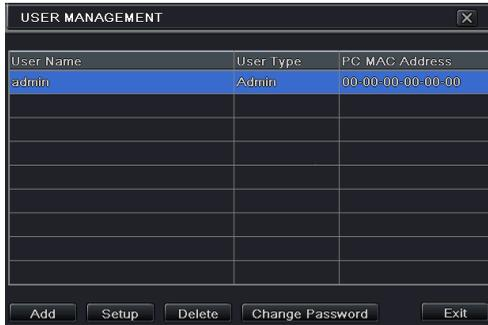

Fig 4-29 User Management Configuration
Step 1: Enter into Menu→Setup→Users. Refer to Fig 4-29: